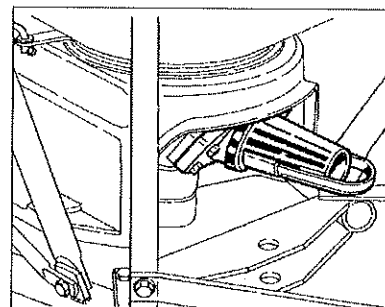

Fig.14
- Pendulum-spout for salt/sand spreading(Fig.14)